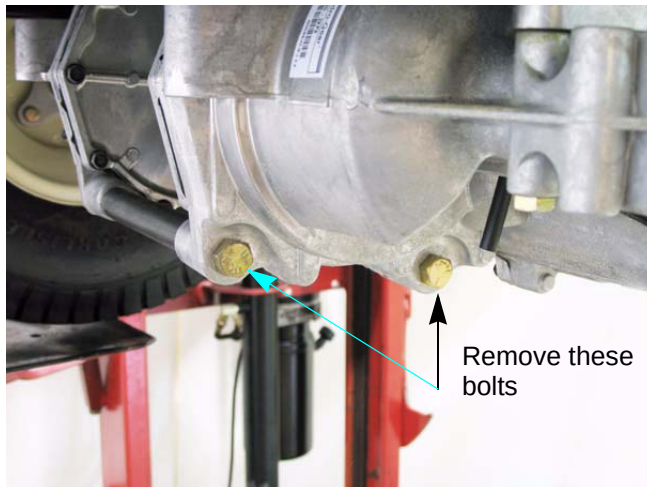

Figure 5.10
7. Remove the two bolts that thread into the cross tubes. See Figure 5.10.